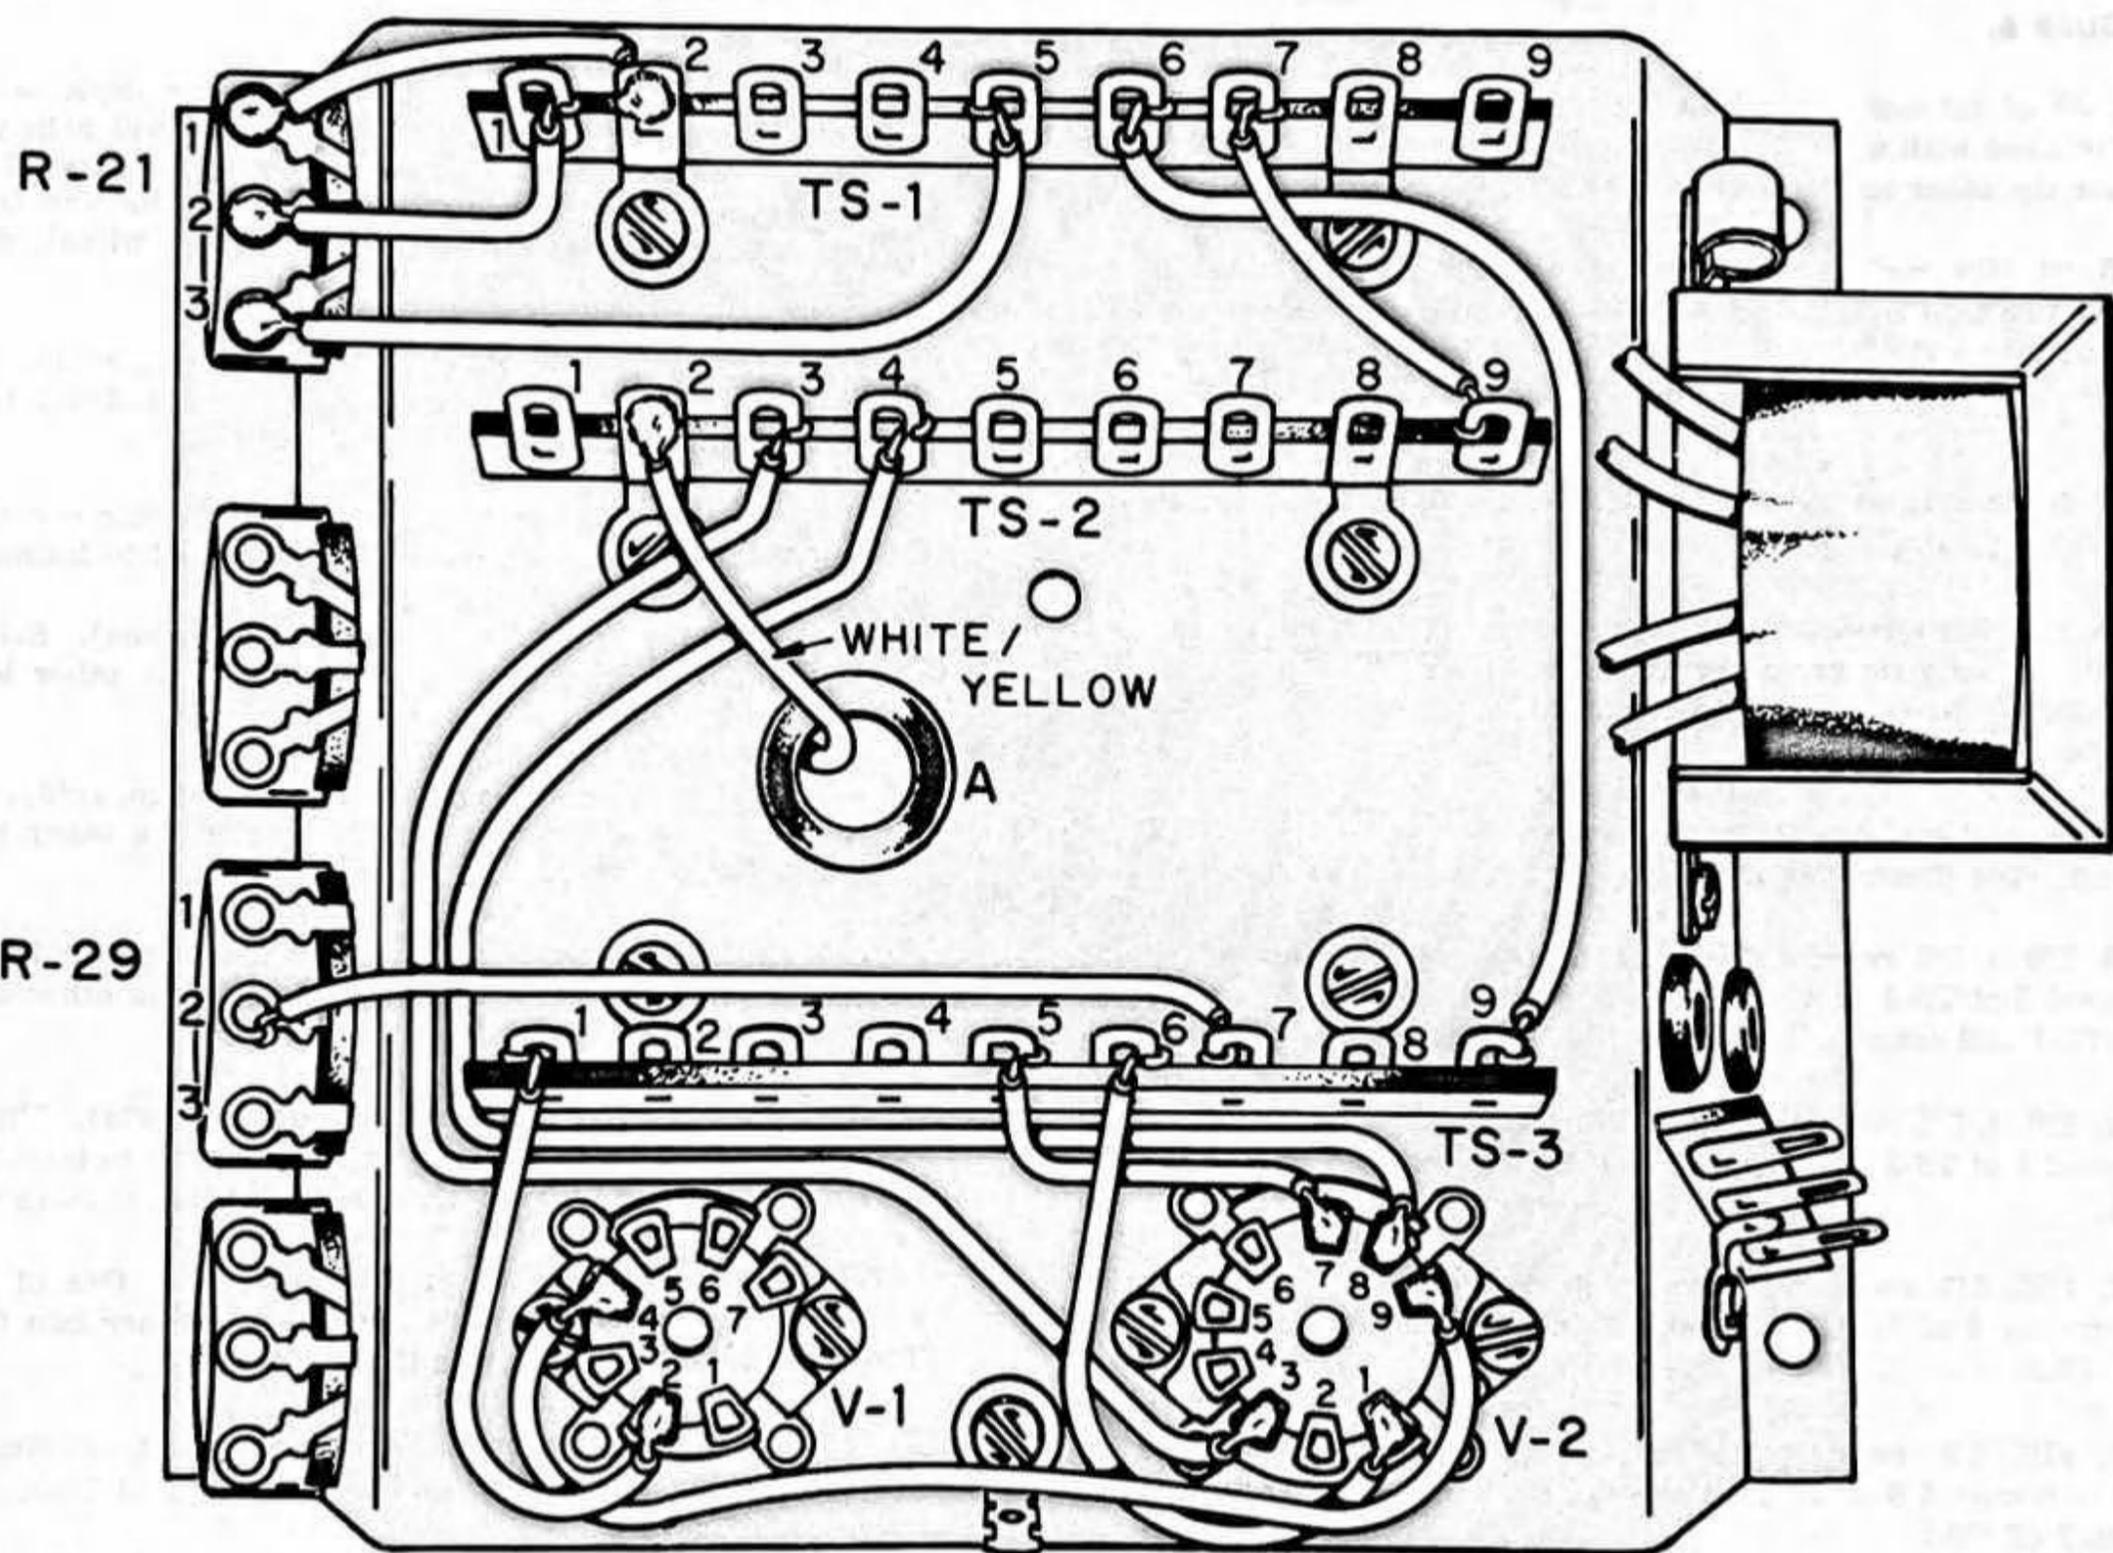

FIGURE 5. SECOND WIRING ON THE CHASSIS
SEE FIGURE 5.
- Are all your connections made properly? Compare your chassis wiring with Figure 5. Check each solder connection to be sure it has a shiny, metallic finish.